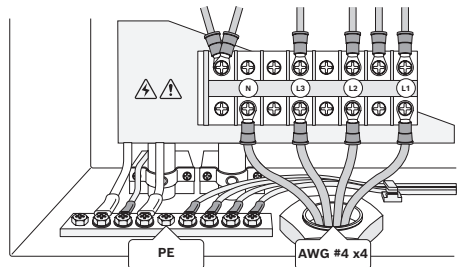

Fig. 10: Power terminal connections
1. Using M6 screws, fasten L1, L2, L3, and N wires onto the 4P terminal, and torque each screw to 30Kgf.cm/5-15 secs (see Fig. 10).